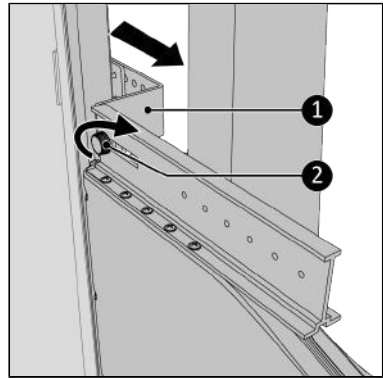

Figure 81.
9. Pull the bracket as far towards you as possible (Figure 81, pos 1) so it clamps properly.
10. Tighten the screw cap (Figure 81, pos. 2).